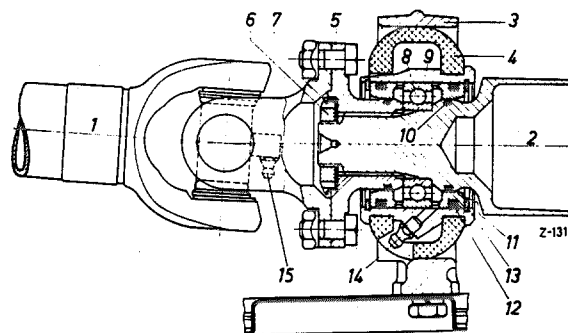

Fig. 41 — 4/2
Note: Replacement supply procedures have recently been changed in so far as both the propeller shaft assembly and the rear propeller shaft are supplied without bearing bracket (3) and without rubber mounting (4) (see Fig. 41 — 4/2).